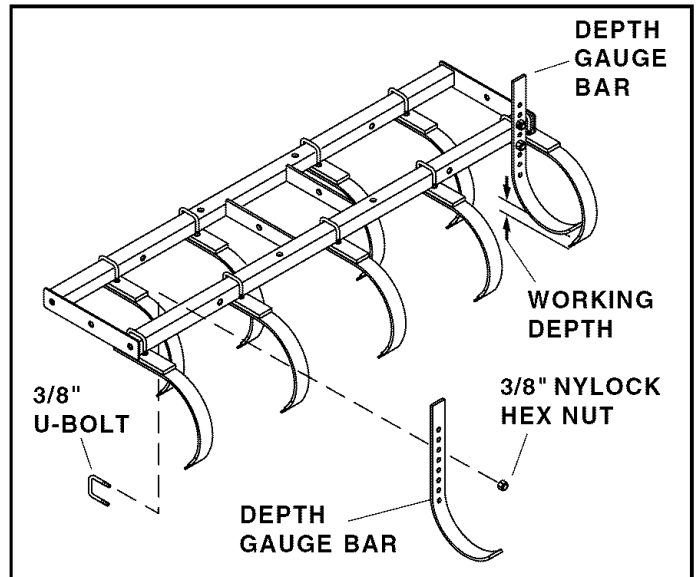

FIGURE 2
2. Turn the frame assembly upright. Attach two depth gauge bars to the frame using a 3/8" U-bolt and two 3/8" Nylock hex nuts for each bar. Put each depth gauge bar next to each outside tang on the rear of the frame as shown in figure 2. Use the holes in each bar that will give the desired working depth, if known at this time. Use matching holes in both depth gauge bars to keep the cultivator level.